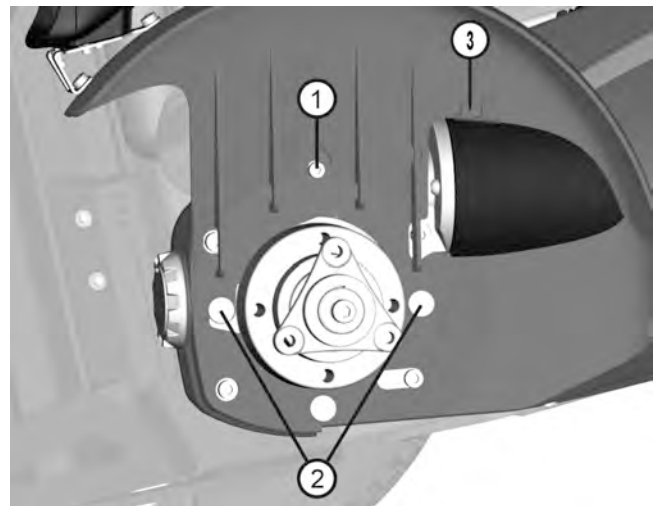

Figure 15. The front fender is fitted with one screw (1) and two fixing points (2) at the bottom.
In fig. 15 the wheelchair is shown without the drive wheel to get a better view of the front fender. However, the drive wheel do NOT need to be removed for this operation.
2. Rotate the drive wheel in question to get access to the screw (1) holding the front fender. See fig. 15.